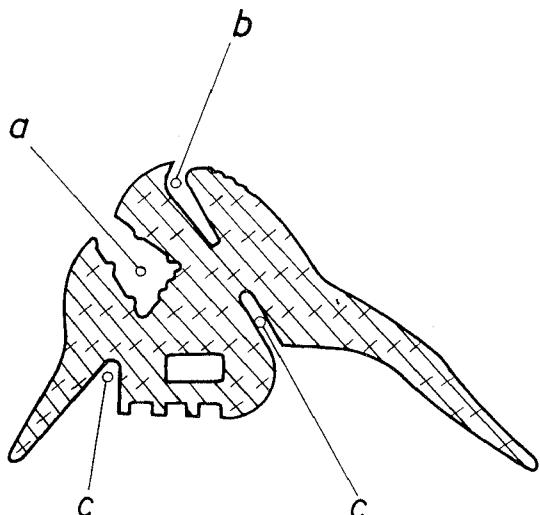

Fig. 82
- Place a cord in the slot ("b" Fig. 82) and insert trim strip. Pull out cord downward and press trim strip in place.